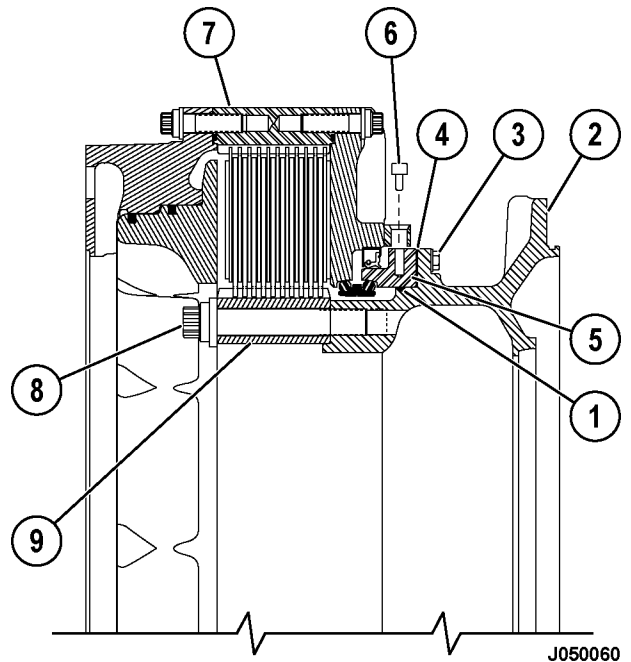

FIGURE 5-11. REAR BRAKE, HUB INSTALLATION
23. Install new O-ring (1, Figure 5-11) in the hub groove.
25. Insert the following shims (4) between the hub flange and seal carrier (5) at each pair of capscrews (six places):
26. Install capscrews and lockwashers (3) and tighten them securely.
28. Tighten capscrews (3, Figure 5-11) to **122 N·m (90 ft lb)**.
29. Install capscrews and hardened washers (8). It will be necessary to remove the shipping bars from the inner gear to access some capscrews. Alternately tighten the capscrews to **2 705 N·m (1995 ft lb)**. Replace the shipping bars.